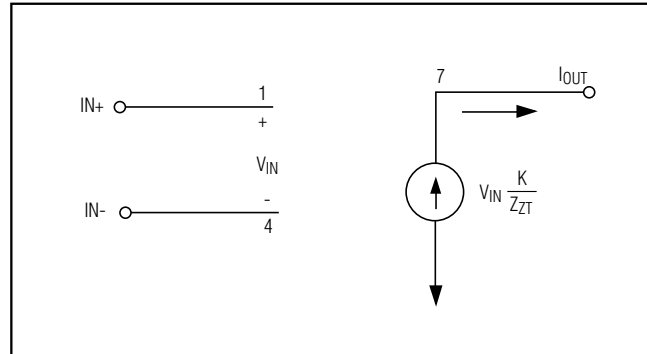

Figure 1. Operational Mode
The output is essentially a voltage-controlled current source as shown in Figure 1. The MAX9547 output is a current proportional to the differential input voltage, and inversely proportional to the impedance of the user-selected transconductance network, ZZT. The current output provides inherent short-circuit protection for the output terminal. A differential input voltage applied to the input terminals causes current to flow in the transconductance element (ZZT), which is equal to VIN / ZZT. This current in the transconductance element is multiplied by the preset current gain (K) and appears on the output terminal as a current equal to (K) × (VIN / ZZT). This current flows through the load impedance to produce an output voltage according to the following equation: